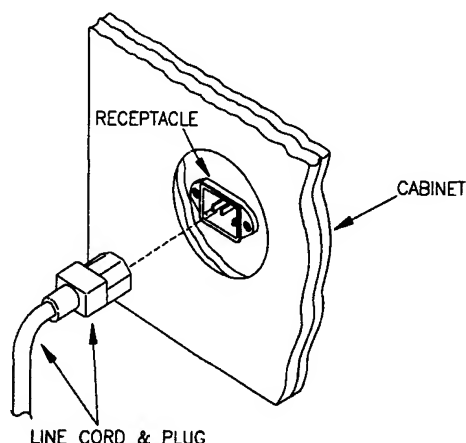

Figure 12
18. Plug the line cord into the game cabinet. Match the prongs on the plug with the holes in the receptacle, and push the line cord securely into place. See Figure 12.